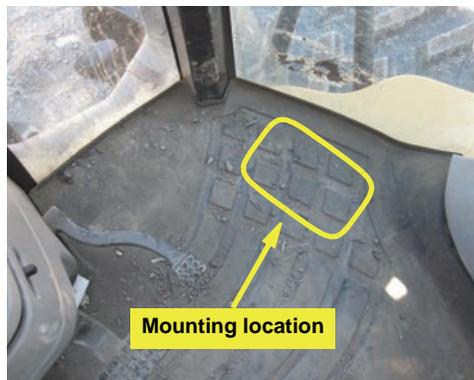

Figure 1a: ECU mounting location
- a. Locate the ECU mounting location to the front right corner of the cab floor (Figure 1a).